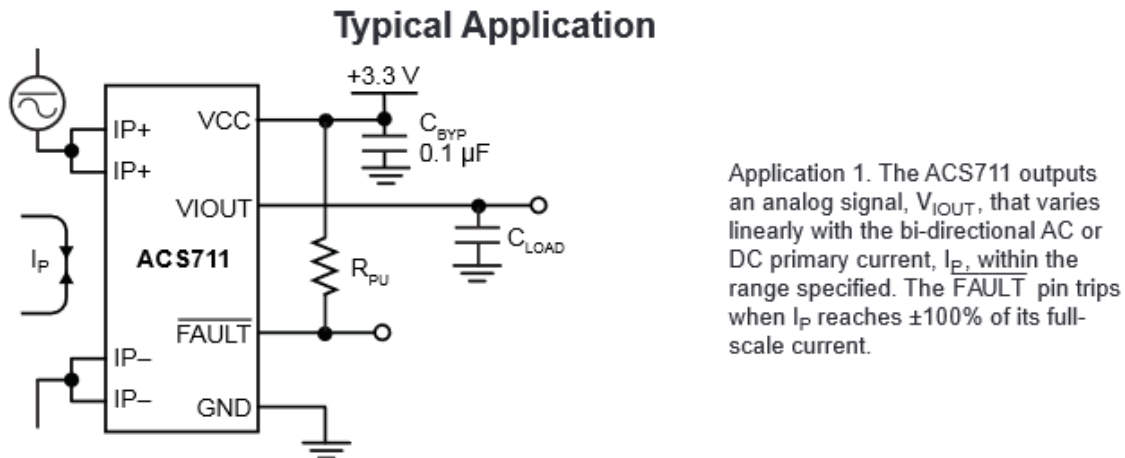

Figure 5: Application example of the current sensor.
- While designing the circuits students are encouraged to look up the application notes and datasheets of the components. For example, **Figure 5** shows a typical application of the current sensor.